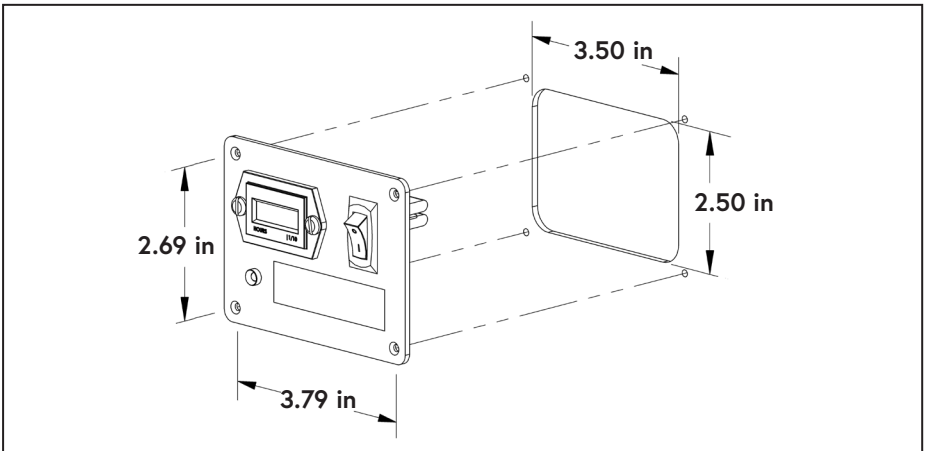

Figure 62 — Interface panel mounting dimensions
- Install the interface panel in a suitable location (Figure 62).